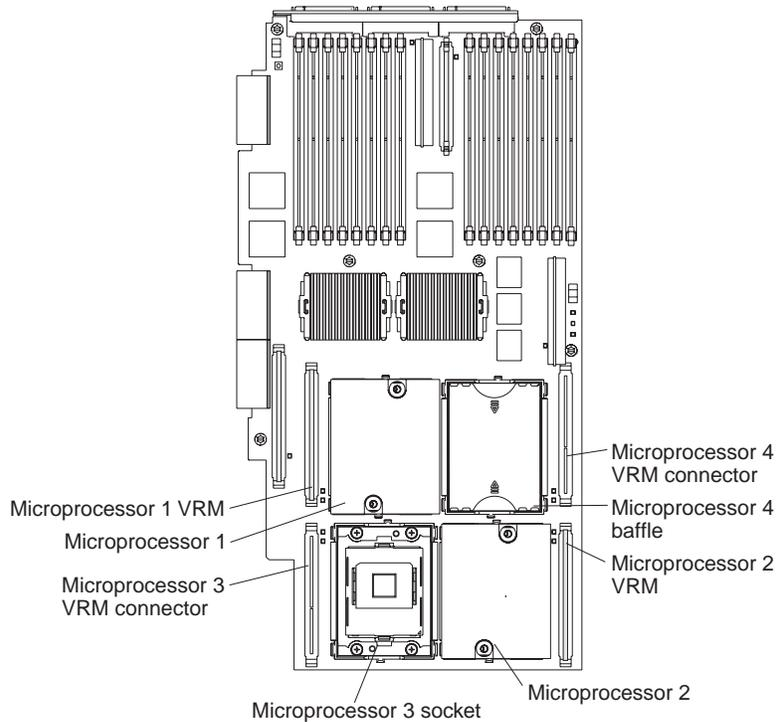

Figure 12. Microprocessor connector and VRM locations
- Intel Xeon MP microprocessors are supported in microprocessor sockets 1, 2, 3, and 4. Figure 12 on page 16 shows the location of the startup microprocessor and its VRM on the SMP expansion board. It also shows the microprocessor baffles and the VRM slots for the other microprocessor sockets.